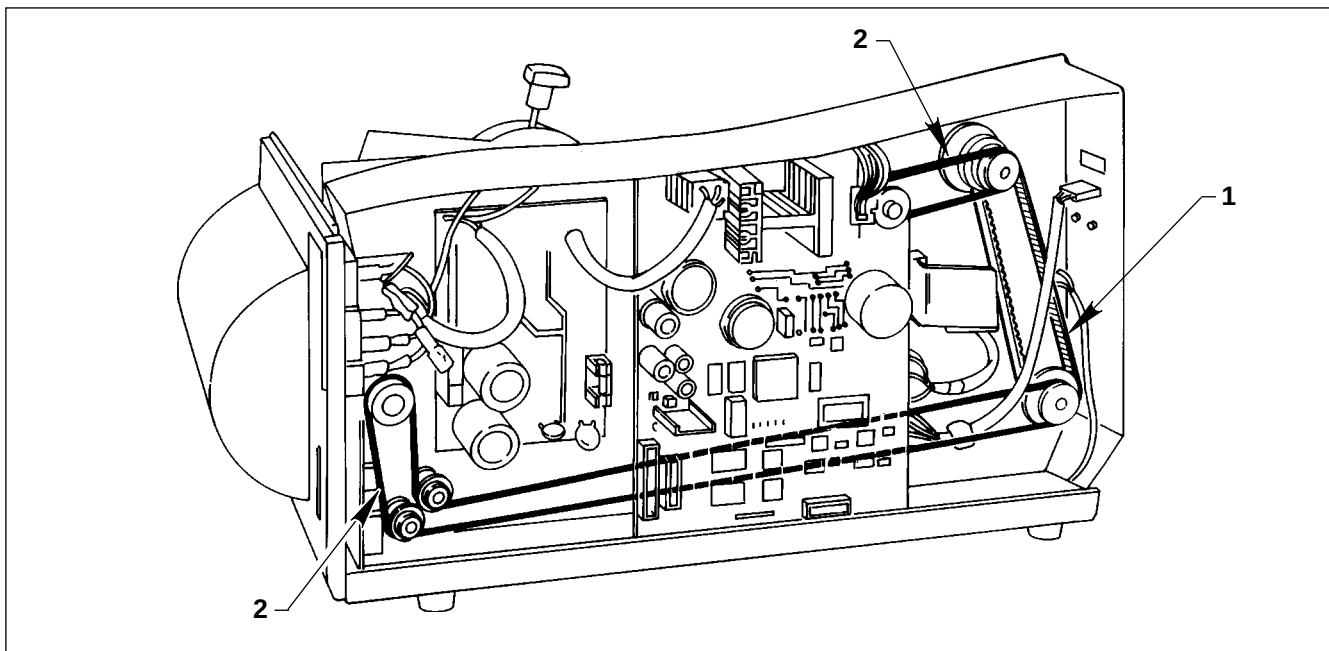

Fig. 8 CONTROLLO CINGHIE
1.10 CONTROLLI PERIODICI (Fig. 8)
1.10 SCHEDULED CHECKS (Fig. 8)